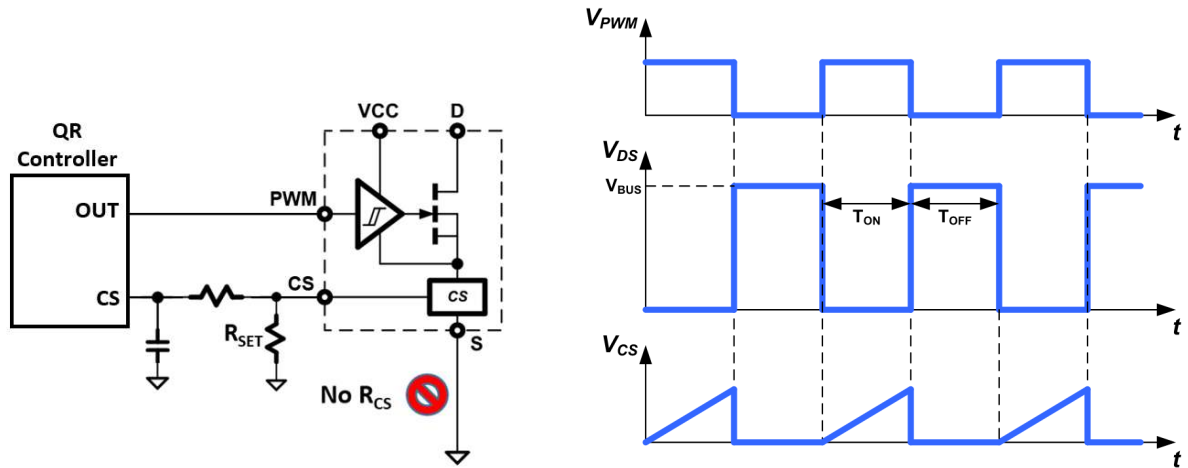

Fig. 26. Current sensing circuit and timing diagram
For many applications it is necessary to sense the cycle-by-cycle current flowing through the power FET. Existing current sensing solutions include placing a current sensing resistor in between the source of the power FET and P_{GND}. This resistor method increases system conduction power losses, creates a hotspot on the PCB, and lowers overall system efficiency. To eliminate this external resistor and hotspot, and increase system efficiency, this IC includes GaNSense™ Technology for integrated and accurate loss-less current sensing. The current flowing through the internal GaN power FET is sensed internally and then converted to a current at the current sensing output pin (CS). An external resistor (R_{SET}) is connected from the CS pin to the S pin and is used to set the amplitude of the CS pin voltage signal (Fig. 26). This allows for the CS pin signal to programmed to work with different controllers with different current sensing input thresholds.